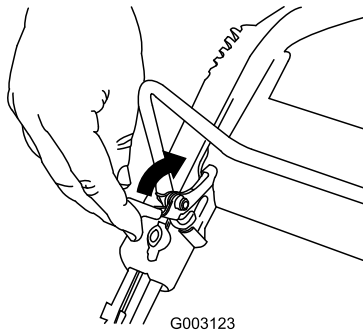

Figure 21
To shut off the engine, press and hold the engine-shutoff button (Figure 21) until the engine shuts off.
1. Pull the control-bar lock back (Figure 21).